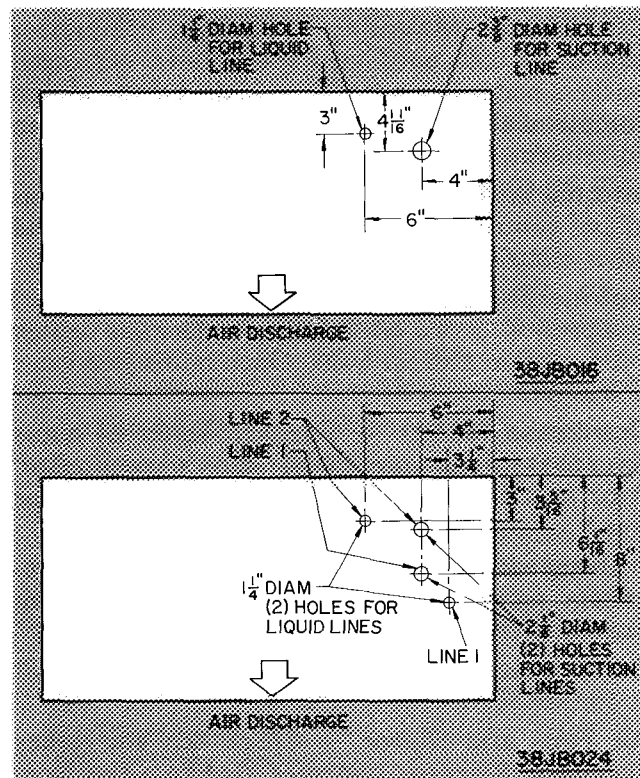

Fig. 6 — Liquid and Suction Line Locations in Top Panel
**CONNECT REFRIGERANT LINES** — See Fig. 5. When suction lines are piped thru the front or top of the 38JB016, one 1-3/8 in. 90° elbow is required; two 1-1/8 in. 90° elbows are required on the 38JB024. See Fig. 6 for hole locations.
When liquid lines are piped thru the front of unit elbows are not required. When liquid lines are piped thru top of unit, two 5/8-in. 90° elbows are required. See Fig. 1 and Fig. 6 for line locations.